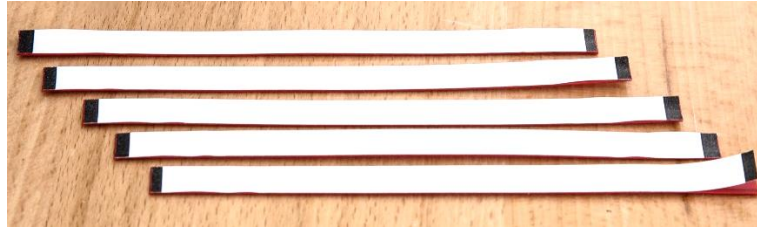

Figure 3.5
- M. Cycle the machine 5 times and check the release liner on these cut ties to see where the tie is being cut (Figure 3.5). The tie should be cut near the center of the black registration mark printed on the release liner.